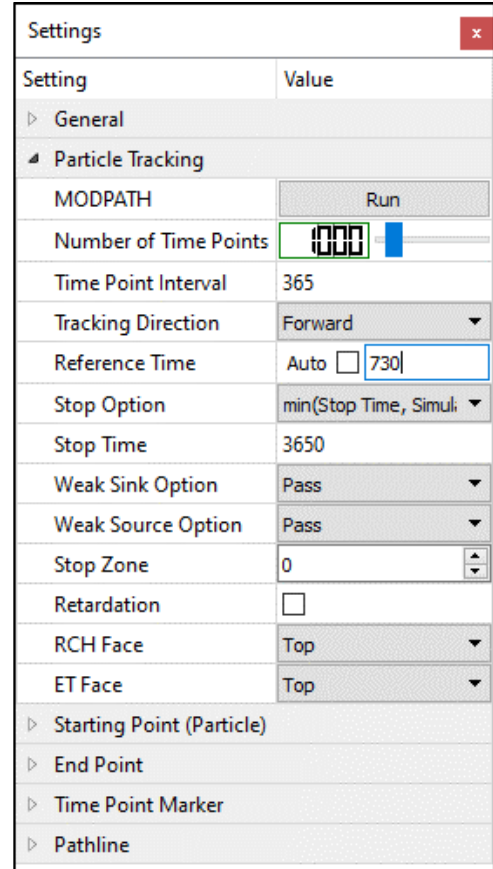

Figure 173. The Particle Tracking group of the Settings window for MODPATH
2. Particle Tracking (Figure 173)